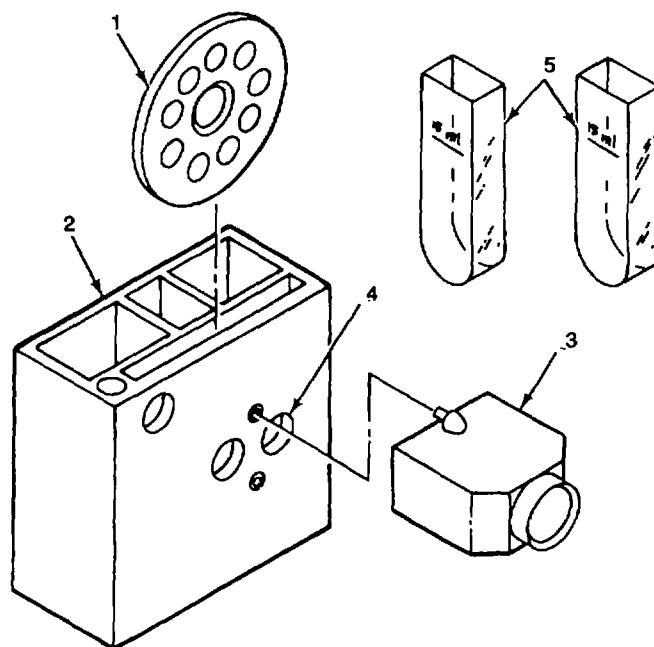
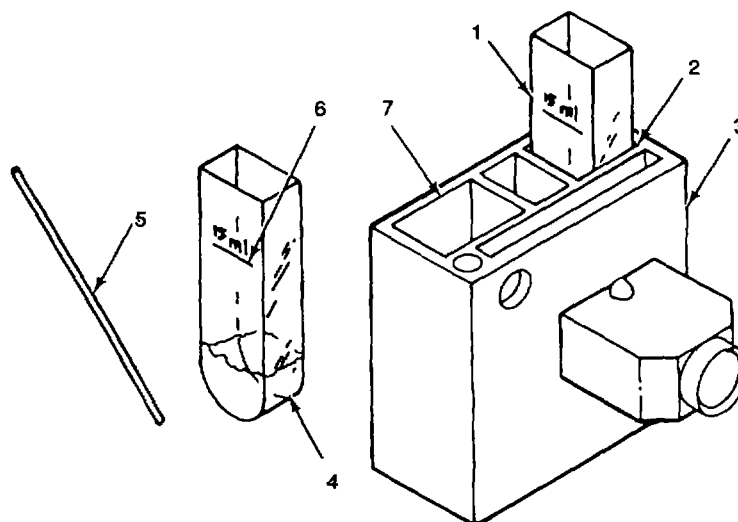

Figure 2-29. Color Comparator
Figure 2-30. Comparator Cells
- c. Perform chloride residual tests as follows (Figure 2-29):
- (1) Place chlorine color disc (1) in the comparator (2).
- (2) Place prism eyepiece (3) over sample cell windows (4).
- (3) Select two clean comparator cells (5).
- (4) Fill one cell (1, Figure 2-30) to the mark with the water under test.